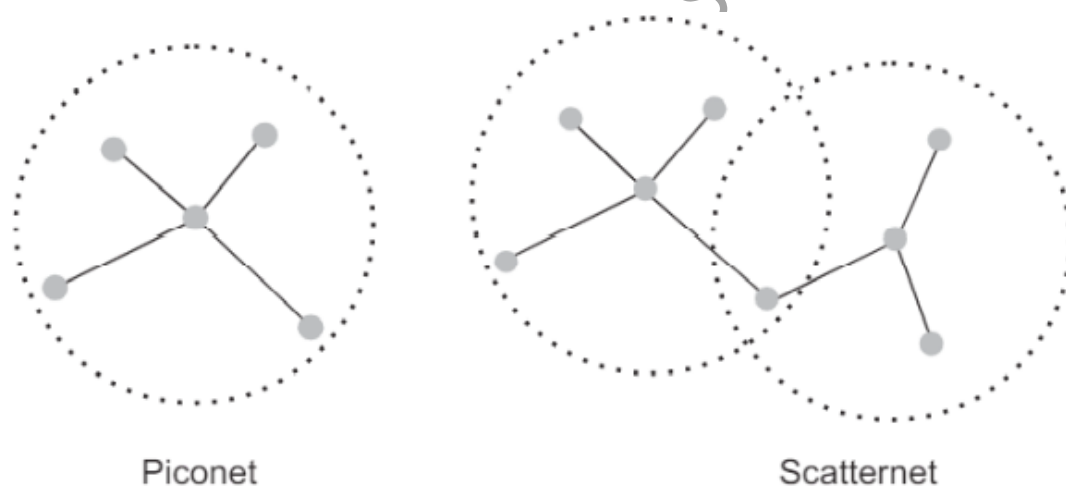

Fig 5.15 Illustration of the concept of piconet and scatternet in Bluetooth
- Bluetooth defines a structure called scatternet to facilitate interpiconet communication. A scatternet is formed by interconnecting multiple piconets. As shown on the right side of fig 5.15.